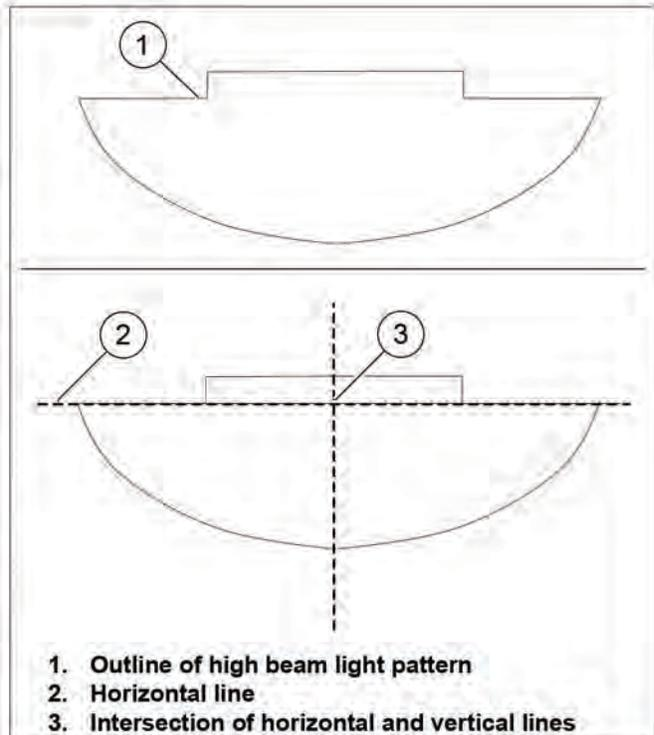

Figure 3. Alignment of Headlamp High Beam
2. See Figure 3. With vehicle laden and upright, point the front wheel straight forward at wall.
3. Turn on the **high beam**. Align the center of the **high beam** hot spot with the intersection of the horizontal and vertical lines (3).